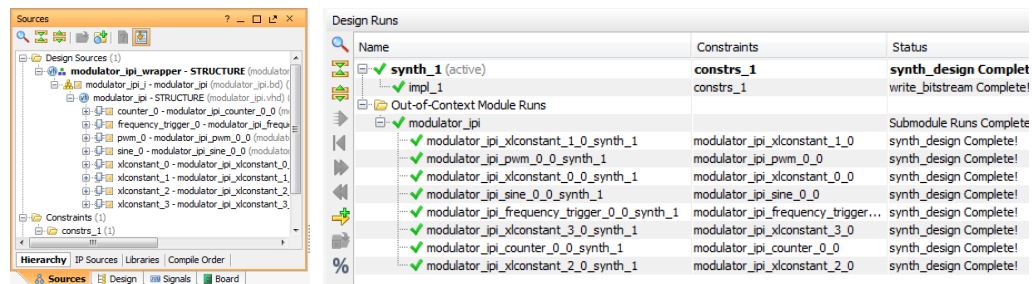

Figure 39. Design Runs Window for Out-of-Context per IP Synthesis
- 3-3-9.** This mode creates an out-of-context (OOC) synthesis run and design checkpoint file (DCP) for every IP that is instantiated in the design. Notice that each IP in the BD is also marked with a filled square that indicates the IP is marked as OOC. The Design Runs window lists synthesis runs for each IP used in the Block Design, as shown in Figure 39.